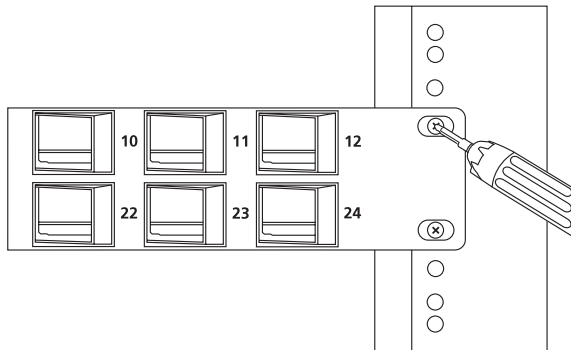

Figure 1. Mounting the panel on a rack.
1. Mount the panel on a 19-inch rack, as shown in Figure 1.